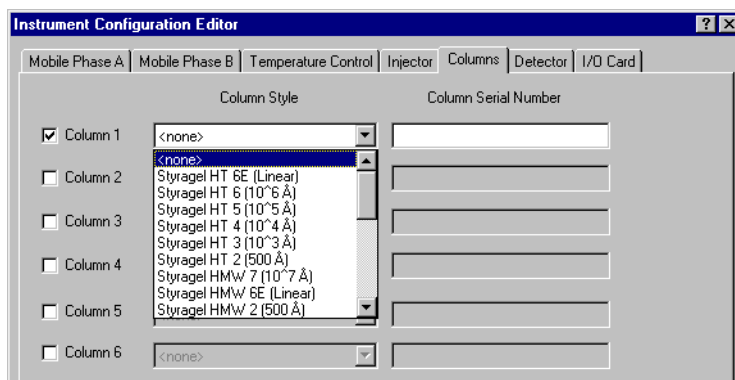

Figure 3-6 Columns Page
1. Click the Columns tab in the Instrument Configuration Editor dialog box (Figure 3-6) to open the Columns page.